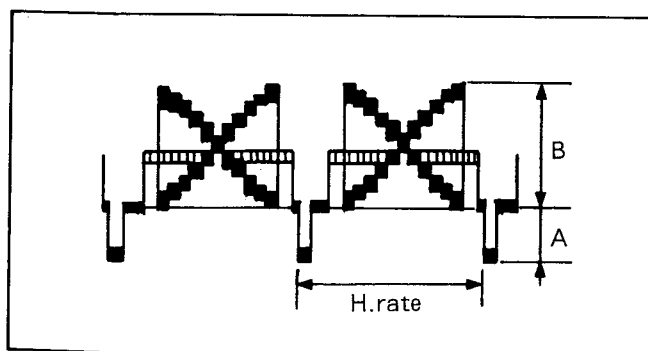

Fig. C18
- (4) Adjust the YH Level Control (VR315) so that the signal level "B/A" is 2.5 ± 0.15 as shown in Fig. C18.
- (5) Disconnect the jumper wire.